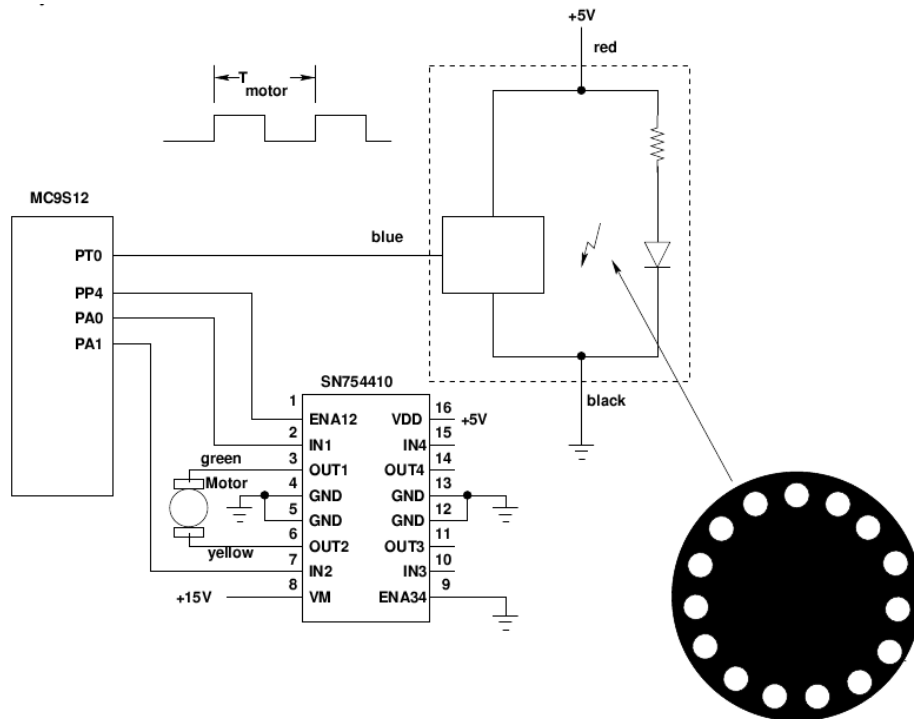

Figure 1: Using a pulse width modulated (PWM) signal to adjust the speed of a motor.
The speed of a motor can be adjusted by powering it with a pulse width modulated signal. Figure 1 shows how this can be done. The SN754410 motor controller works as a switch. When the signal on the enable (EN1) input of the L293D is high the switch is closed, current flows through the motor, and the motor speeds up. When the signal is low, the switch is open, no current flows, and the motor slows down. IN1 and IN2 determine the direction of the motor. When IN1 is high and IN2 is low, OUT1 will be high (VM) and OUT2 will ground. Changing the logic levels of IN1 and IN2 reverse the voltage levels on OUT1 and OUT2, and the motor changes direction. With a high enough frequency PWM signal the amount the motor speeds up and slows down in one period is negligible, and the motor turns at a constant speed. By adjusting the duty cycle the speed of the motor can be controlled. For the motors you will be using in this lab, use a PWM frequency of about 5 kHz.
2. Program your MC9S12 to generate a PWM frequency of 5 kHz, with an active high PWM signal with a duty cycle of 50%. (Use Bit 4 of the PWM, since Bits 0 through 3 of Port P are used to enable the seven-segment LEDs.) Make Bit 0 of Port A high, and Bit 1 of Port A is low. Connect the circuit shown in Figure 1. Use your logic probe to verify that the optical encoder is working.